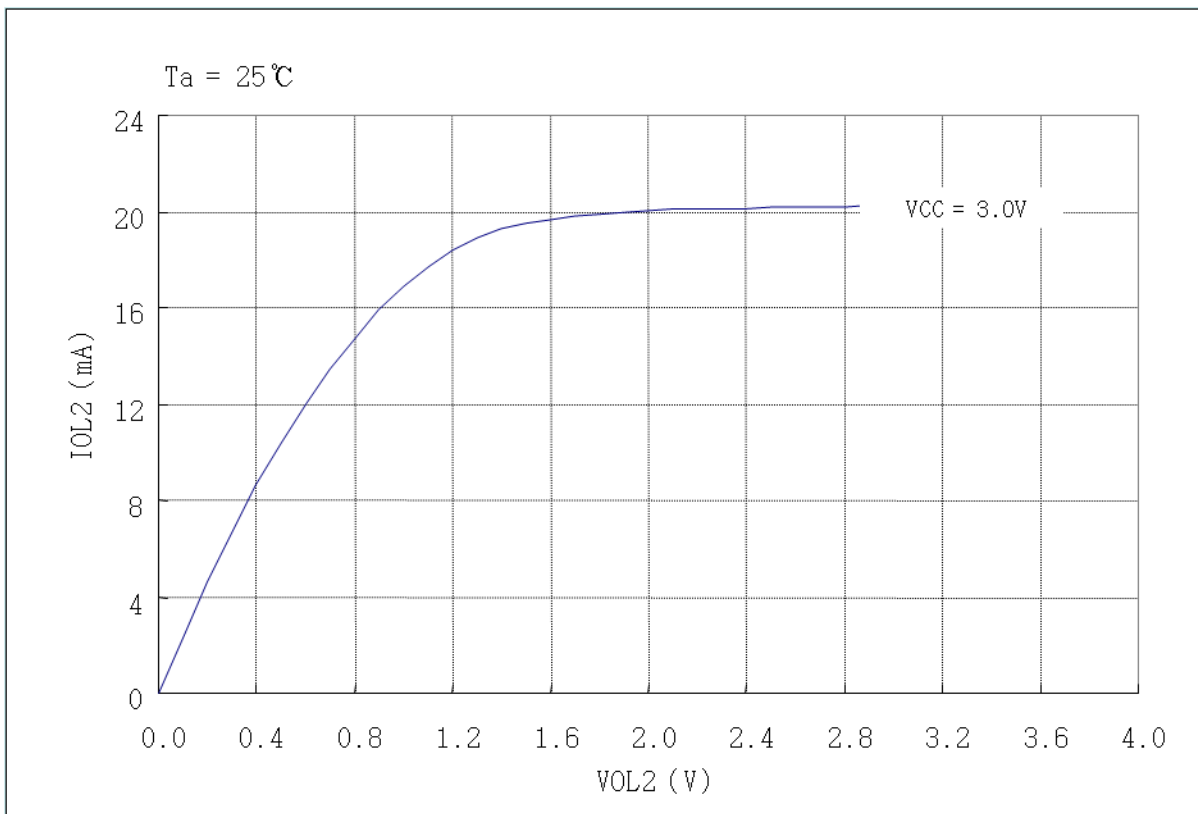

Fig 7-1. IOL2 vs. VOL2 Graph. (D, R Port)
*1 Refer to Fig.7-1 < I_{OL1} vs. V_{OL1} Graph >